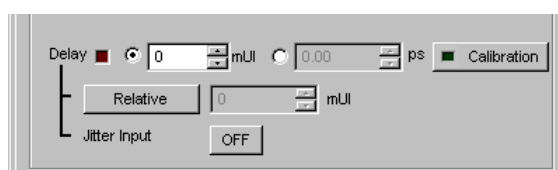

Figure 4.4.2-1 Clock delay setting items
- When executing jitter tolerance test, etc. by inputting jitter-modulated clock, set **Jitter Input** of Delay to **ON** to avoid malfunction of Delay caused by excess jitter modulation. (Refer to Figure 4.4.2-1.) When using the MU181000A/B (with Option 001 Jitter Modulation) or MU181500B, set **Jitter Input** of Delay to **ON**, and then set **Jitter Modulation** of the MU181000A/B or MU181500B to **ON**.